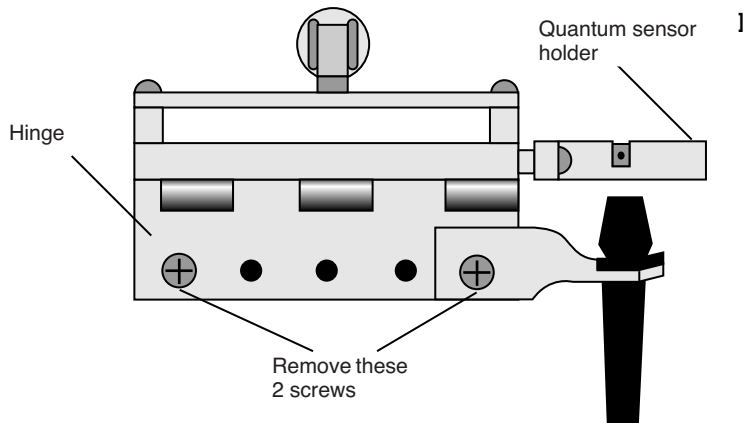

Figure 28-10. Remove the two screws from the handle hinge.
a) Remove the 2 screws from the hinge on the rear of the upper half of the leaf chamber (Figure 28-10).